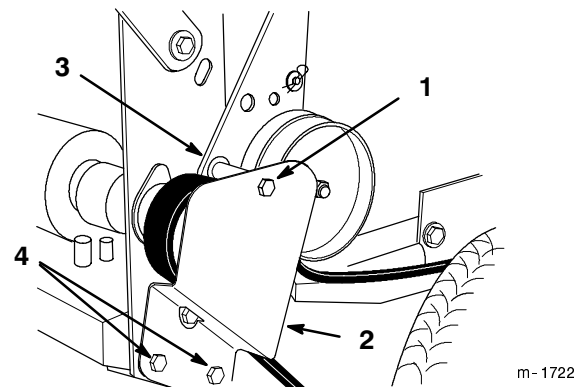

Figure 33
1. Remove top capscrew securing idler support and idler bracket to rear frame (Fig. 33).
2. Loosen bottom two mounting screws enough to allow belt to pass between drive pulley and idler support (Fig. 33).